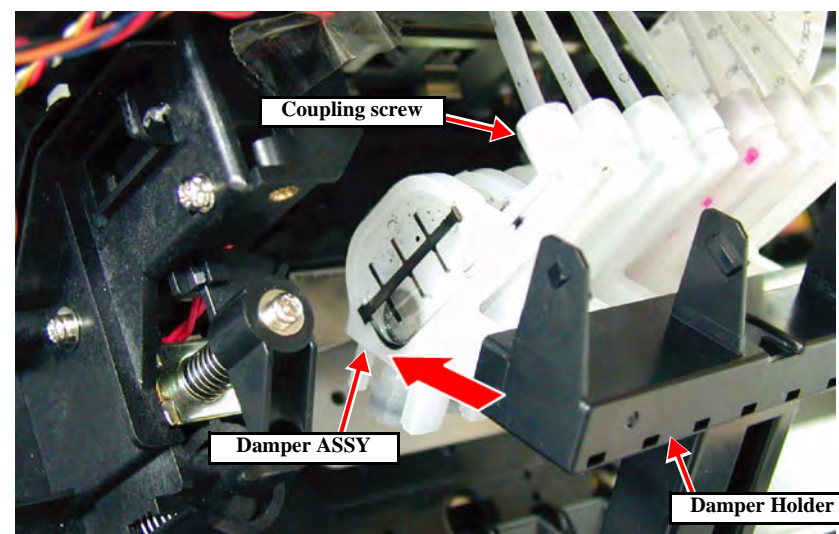

Figure 4-29. Damper ASSY Removal
5. Pull out the relevant Damper ASSY from the Damper Holder, loosen the coupling screw and separate the Damper ASSY from the ink tube. (See Figure 4-29)